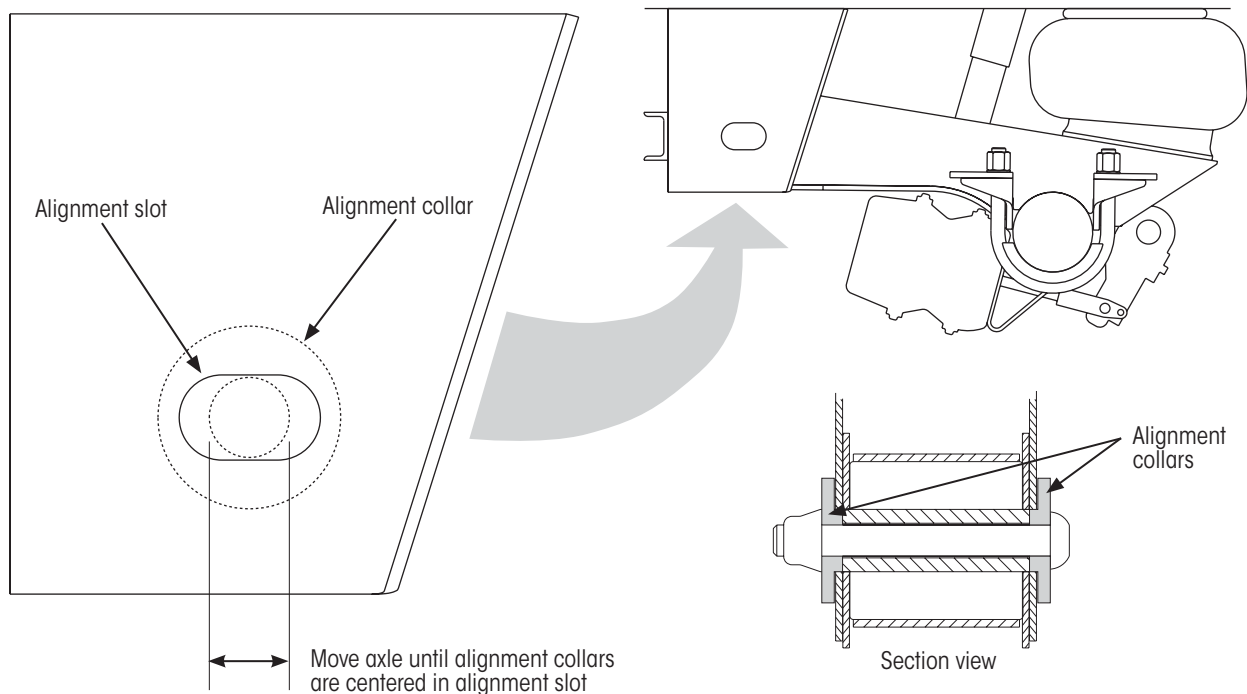

Figure 25: Axle positioning on the welded-collar type frame bracket when major adjustment (both axle ends) is necessary
- B. With both axle ends loose, **move** the axle until the alignment collars are centered in the frame bracket alignment slots (Figure 25).